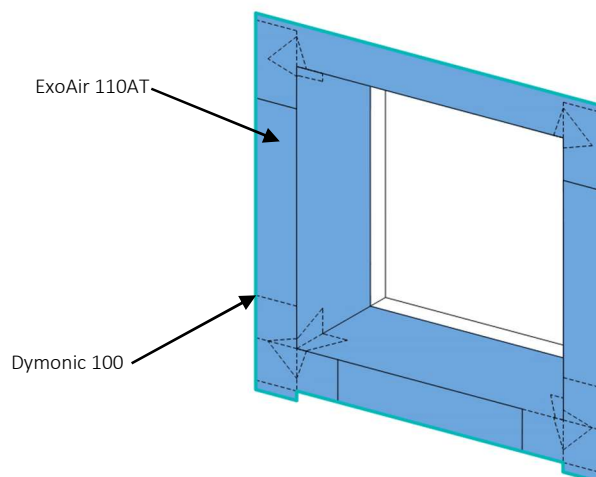

Fig. 17
- g. Apply and tool Dymonic 100 sealant on ExoAir 110AT edges and any other negative laps/skyward facing edges. Dymonic 100 shall extend a minimum $\frac{1}{2}$ " onto both the ExoAir 110AT and the underlying substrate. Using a mil gauge, ensure that a minimum of 40 wet mils have been applied; if not, reapply sealant to achieve 40 wet mils. – **Figure 17.**